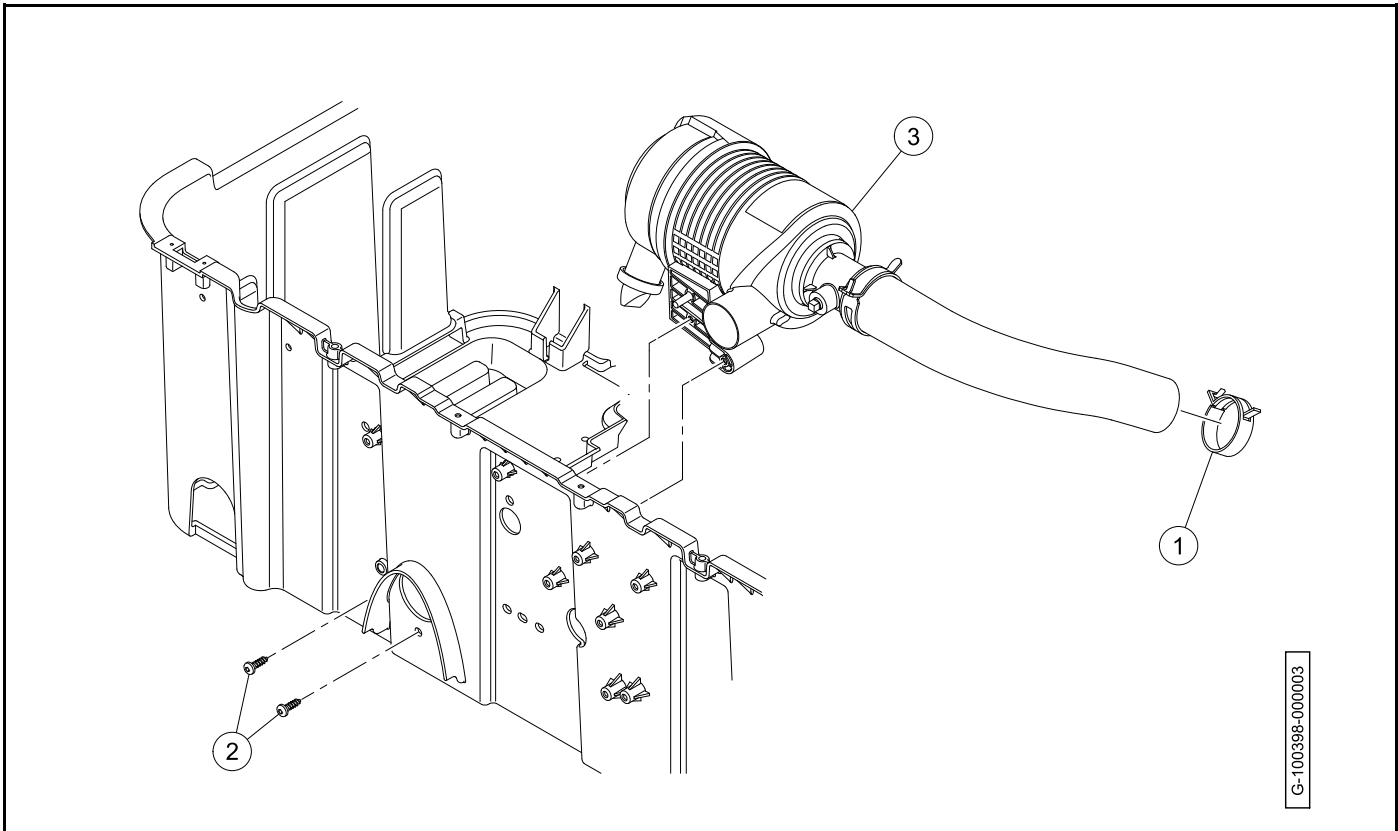

Figure 22-10 Air Intake System
3. Loosen the clamp (1) and disconnect air intake hose from throttle body (**Figure 22-10, Page 22-10**).
4. Remove the screws (2).
5. Remove the air intake system (3).
1. Install the air intake system (3) into the vehicle (**Figure 22-10, Page 22-10**).
2. Install the screws (2). Tighten the screws to 85 in·lb (9.5 N·m).
4. Install the clamp (1).